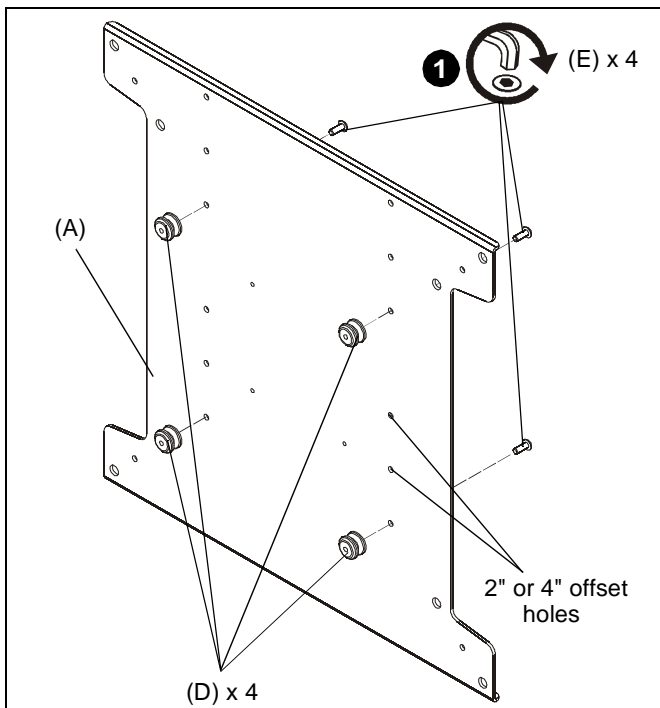

Figure 1
1. Attach mounting buttons (D) to interface bracket (A) using four #10-24 x 1/2" button head cap screws (E) and a 1/8" hex key (H). (See Figure 1)
NOTE: 2" or 4" offset holes available to use for non-centered mounting patterns. (See Figure 1)